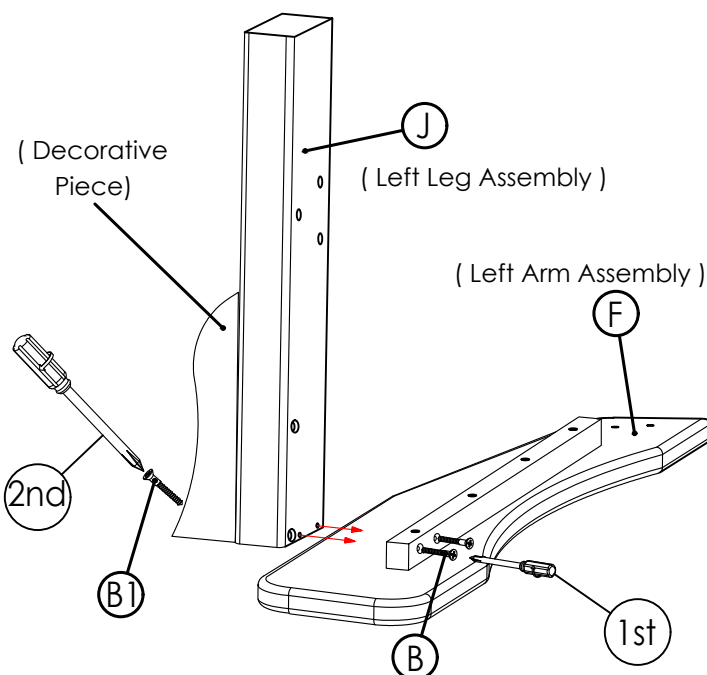
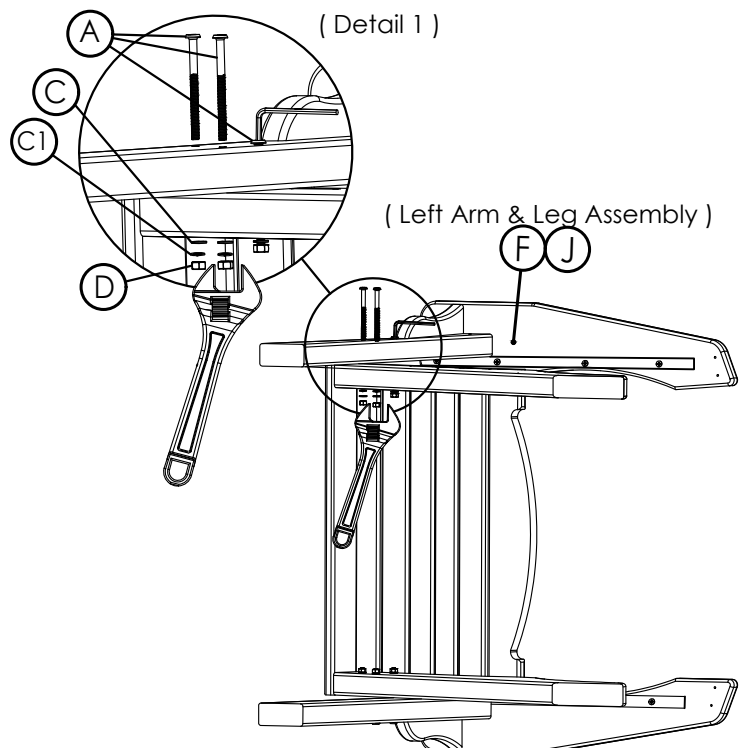

Figure 2
Figure 3
2 - Attach part (F) (J), Left Arm & Leg Assembly, to Assembly from figure 2 as shown in figure 2. Align and insert 3 of bolt (A) into holes and insert washers (C), (C1) and hex nuts (D) from the other side, see detail 1 tighten bolts using an allen wrench and also an adjustable wrench. Follow the same instruction for right arm & leg assembly.
3 - Attach the assembly from Figure 2 and part (H) , Seat Back, as shown in Figure 3 by pushing the lower end of the Seat Back forward against seat slats using (4) of screw (B) and tighten screws using a phillips-head screwdriver as shown in detail 2 and detail 3.